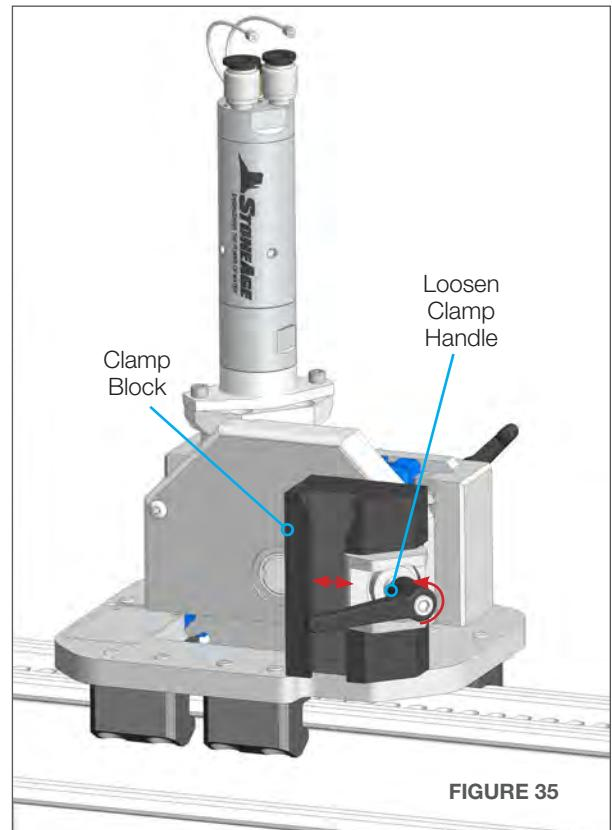

FIGURE 35
20. Loosen the Clamp Block on the Linear Drive by pulling the Clamp Handle out and rotating it counterclockwise. **(Figure 35)**